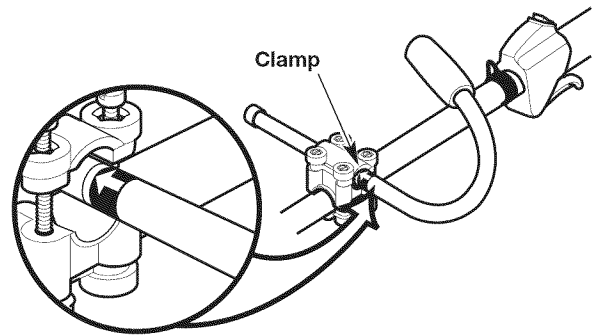

Fig. 2
5. Hold the unit in the operating position (Fig. 13) and slide the handle in or out of the clamp until the arrow/line on the decal touches the clamp (Fig. 2).